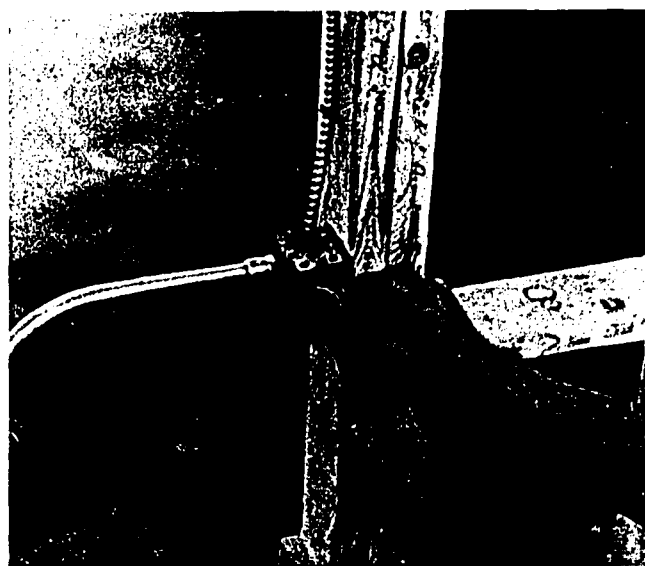

Fig. 53-18. Looping Wires into Outlet Box
8. Loop all wires and depress them (press them down) into boxes. Fixtures will be attached after the walls are enclosed. See Fig. 53-18.